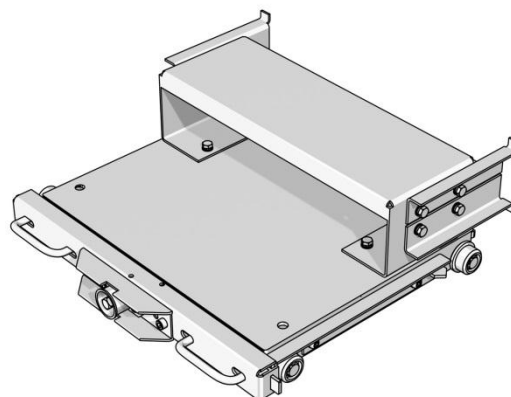

Fig. 4-15 Shutter lifter truck for busbar and cable side shutters
- For busbar and cable side shutters: Place push plate as indicated on the picture Fig. 4-15